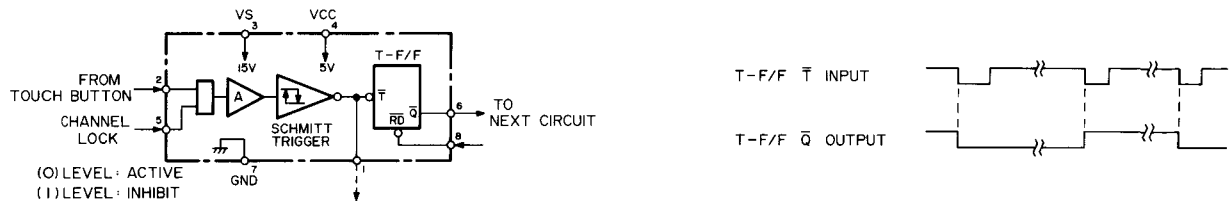

Figure 40-1
5.2.6 Toggle Type (M54621L) (Refer to Figure 40-1)